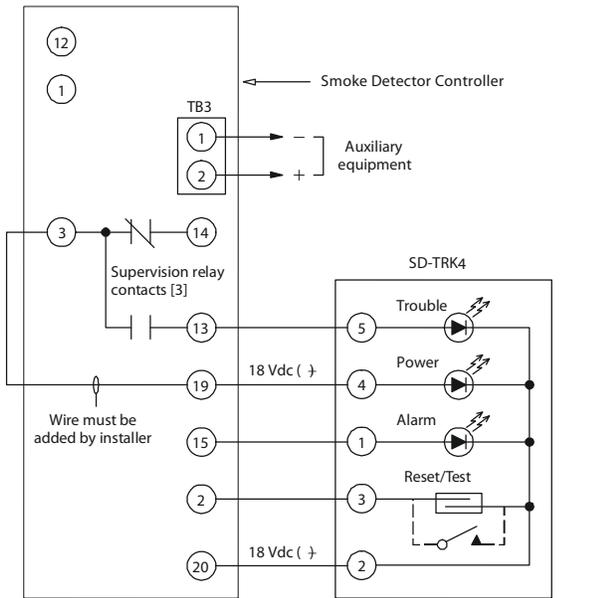

Fig. 24 - Remote Test/Reset Station Connections
The test/reset station dirty sensor test checks the test/reset station's ability to initiate a sensor dirty test and indicate the results. It must be wired to the controller as shown in Fig. 24 and configured to operate the controller's supervision relay. For more information, see "Changing sensor dirty test operation."
1. Verify that the remote test/station is wired as shown in Fig. 24. Repair or replace loose or missing wiring.